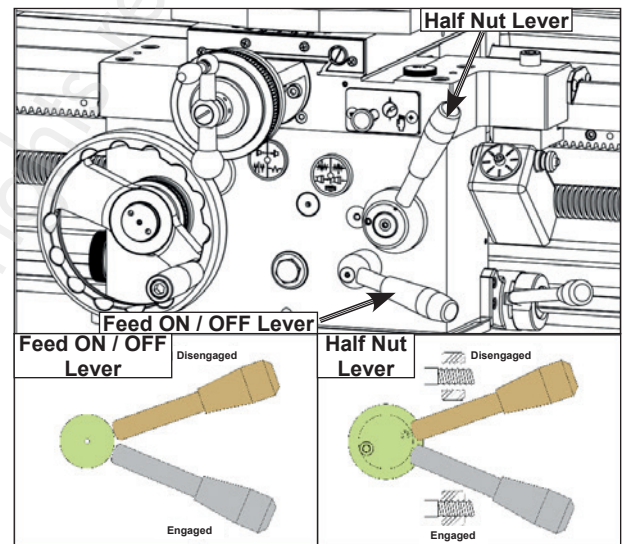

Fig. 18 Apron controls for test run
9. Pull up on the half nut and the feed ON/OFF levers to disengage the carriage (figure 18).